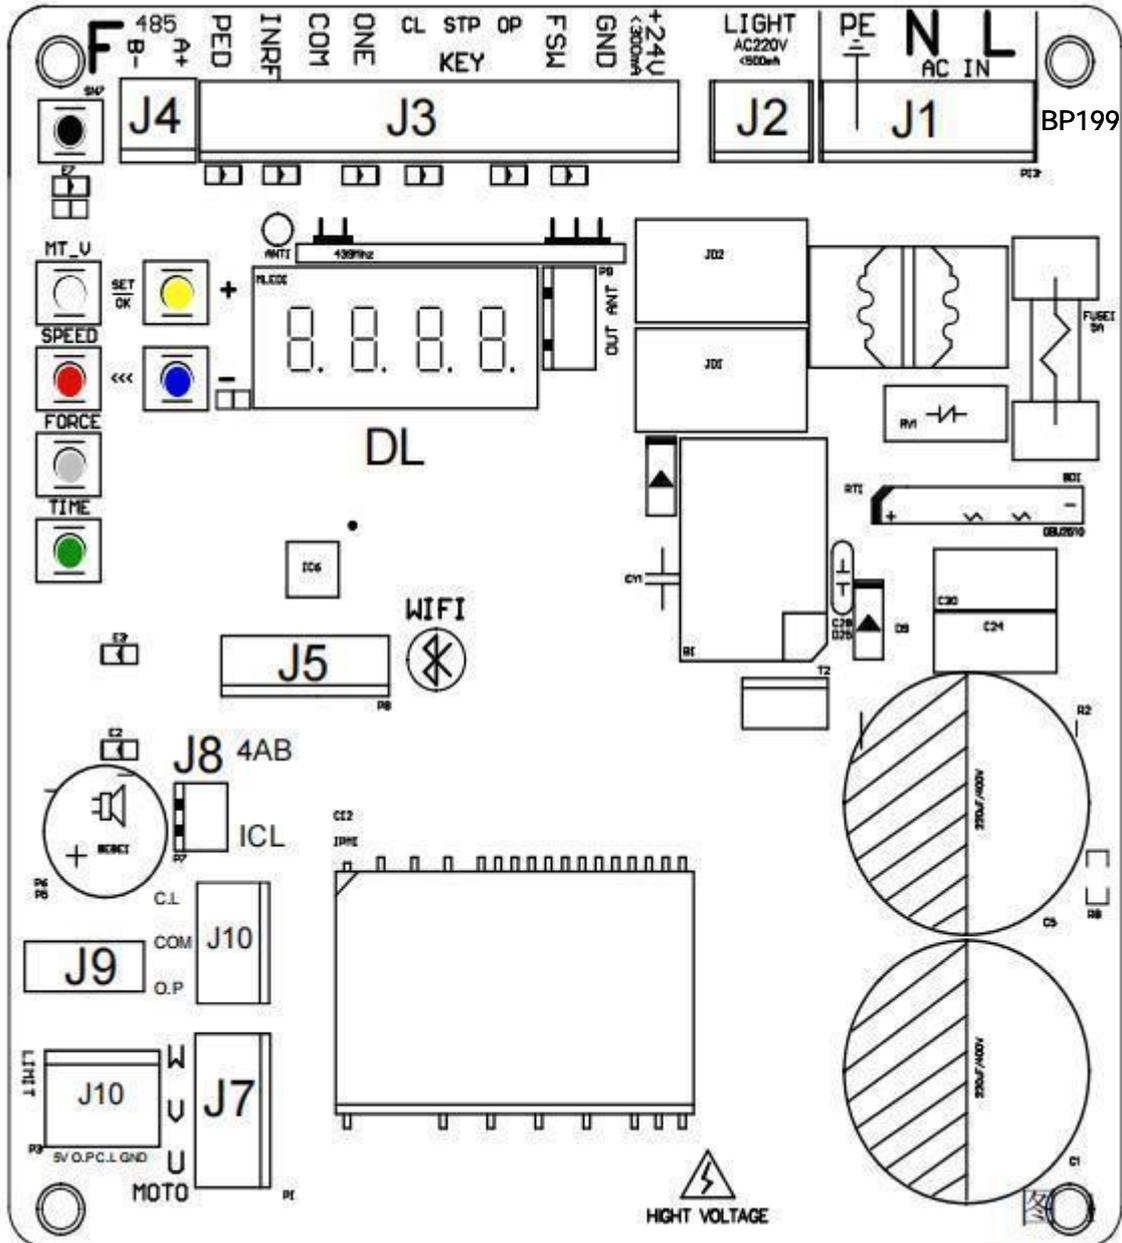

Figure 1
7.1 J1 Wiring Terminal - Power Supply (Figure.1)
7.2 J2 Wiring terminal - Flashing Light (Figure .1)
7.3 J3 Wiring terminal - Accessories (Figure .1)
7.4 J4 Wiring terminal - 485 Communication Interface (Figure.1)
7.5 J5Wiring terminal - External Manual Control Interface (Figure.1)